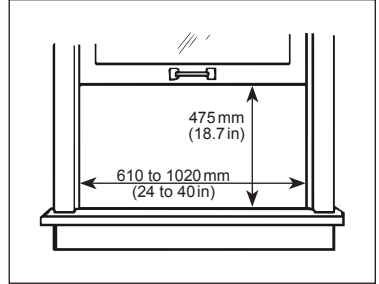

FIGURE 2
- If you have to install the air conditioner in a narrow window, you may not need to install the flexible screens. Please refer to *Figure 2* for window size requirements.